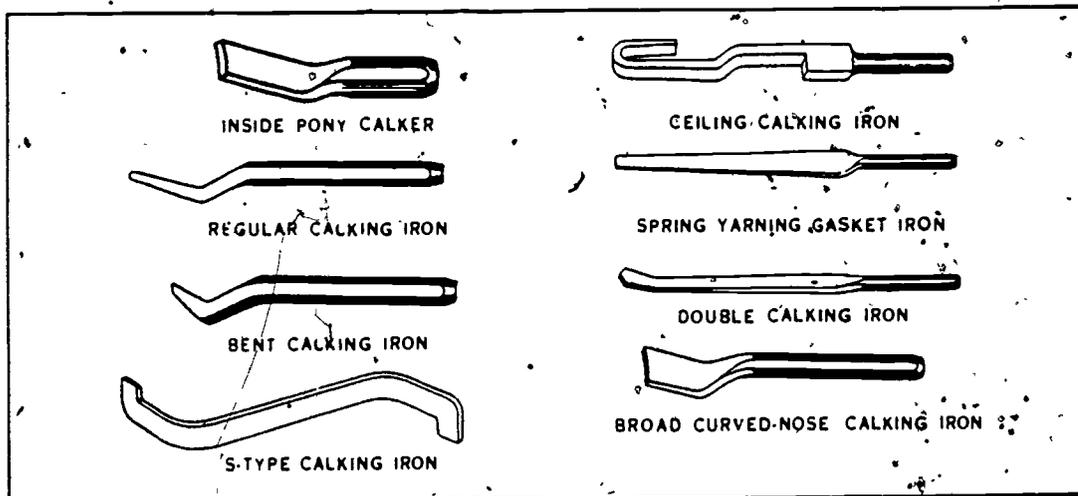

Figure 3-42. Calking irons.
*Calking irons.* Calking irons are used for setting the lead in cast-iron pipe joints. Different shaped irons, some of which are shown in figure 3-42, are used in calking. Yarning irons are used to pack the oakum into the pipe joint, while calking irons are used to pack the lead. The reason for having so many different calking irons is that each one fits a particular kind of job. For instance, the ceiling calking iron is the only one that can be used to calk a joint next to a ceiling. The calking irons should have a good calking surface and should be sharpened on a bench grinder to maintain an even or angular surface. Coat the irons with a thin film of oil to keep them from rusting.